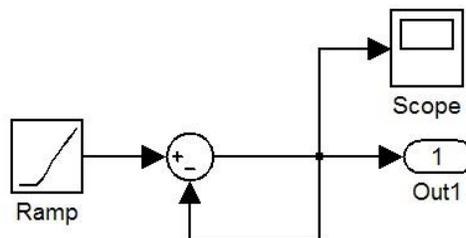

Figure 9 Algebraic loop condition in Simulink
- a. Simulink uses an iterative method for solving algebraic loops. A typical algebraic loop is shown in Figure 9.